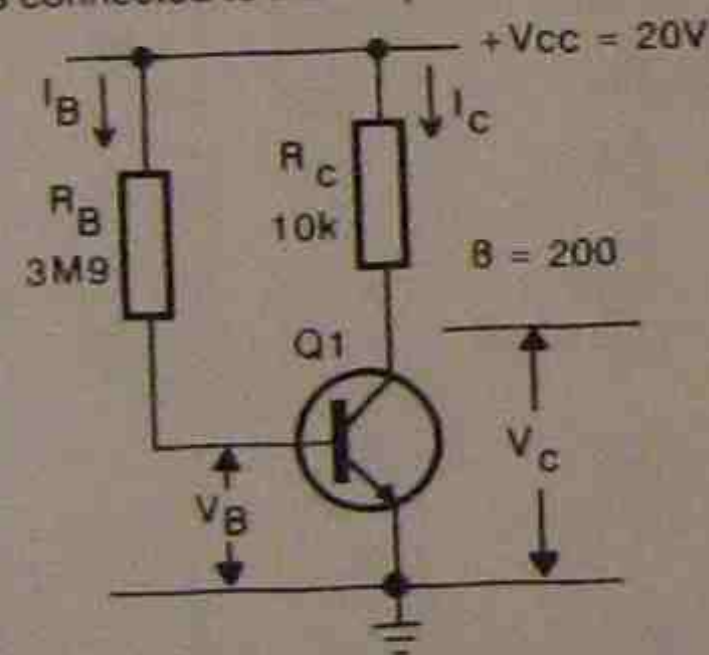

Fig.1: Basic transistor amplifier circuit
The simplest possible transistor amplifier circuit is shown in Fig.1, in which R_B supplies the bias voltage for the base-emitter and R_C converts the collector current variations to a voltage variation.
When an amplifier has no input signal, the DC voltages around the circuit are referred to as the DC quiescent voltages. That is, it is ready to go, in the same way a car engine idles at standstill. The DC values that need to be considered are shown in Fig.1 and are defined as follows:
4. CALCULATING DC QUIESCENT CONDITIONS FOR FIG.1
For the single resistor base bias circuit of Fig.1 the DC conditions are calculated as follows:
In Fig.1, the base current is supplied through R_B , and the collector current that results is simply the base current multiplied by the DC current gain (β) of the transistor. The collector voltage (V_C) is determined by subtracting the voltage drop across the collector resistor R_C from the supply voltage V_{CC} . If an AC signal is applied to the base terminal, via a DC blocking capacitor, the base current will vary with the AC signal, increasing when the AC input goes positive, and decreasing when it goes negative. The changes in the base current will produce corresponding changes in the collector current, and the voltage drop across the collector resistor will also change. Thus, an amplified version of the input voltage will appear at the collector terminal.
- Change in β :** A change in the current gain (β) occurs to some extent with temperature, but large changes can occur if the transistor is replaced. As described in previous notes, a transistor of a given type is usually specified as having a current gain between a range of figures. In the circuit of Fig.1, the current gain of the transistor is assumed to be 200, and the resistor values have been determined on this basis. However, if the transistor is replaced with one having a current gain of say 300, then the DC conditions for the circuit will alter as I_B will change, in turn changing I_C which then alters the value of V_C . The proof is shown below.